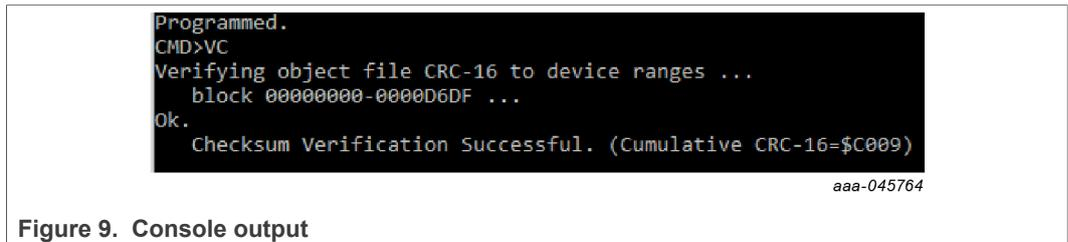

Figure 9. Console output
- A console output displays as shown in Figure 9 indicating 'Programmed' and 'Checksum Verification Successful'.